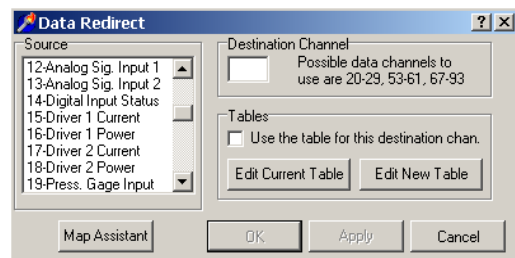

Figure 20. Alternate Source channels for sending external measurements to the Model 6000
2. In Step 3, select a channel such as "12-Analog Sig. Input 1" instead of a user bridge channel (Figure 20).